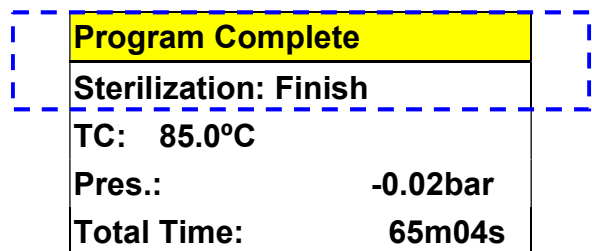

Figure 71– Program Complete
I. On completion, the buzzer will sound and the Program Complete message is displayed as shown in Figure 71– Program Complete.